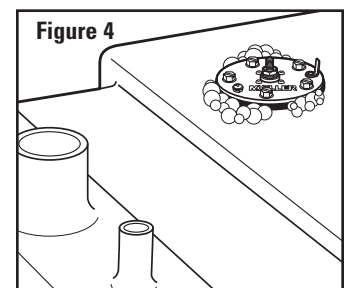

Figure 4
- **For a NO LEAK install**, a leak test of this area should be conducted by pressurizing the tank to 3 PSI. Then look for bubbles using soapy water (see Figure 4).